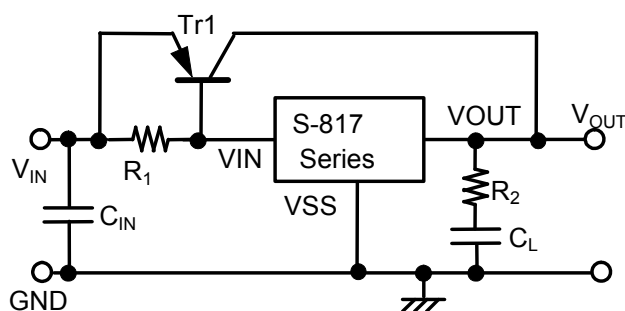

Figure 15
As shown in **Figure 15**, the output current can be boosted by externally attaching a PNP transistor. The base current of the PNP transistor is controlled so that output voltage (V_{OUT}) goes the voltage specified in the S-817 Series when base-emitter voltage (V_{BE}) necessary to turn on the PNP transistor is obtained between input voltage (V_{IN}) and the S-817 Series power source pin (V_{IN}).
- To improve transient response characteristics of the output current boosting circuit shown in **Figure 15**, check that no problem occurs due to output fluctuation at power-on or due to power or load fluctuation under normal operating conditions.
The following graphs show the examples of input-output voltage characteristics ($T_a=25^\circ\text{C}$, typ.) in the output current boosting circuit as seen in **Figure 15**: